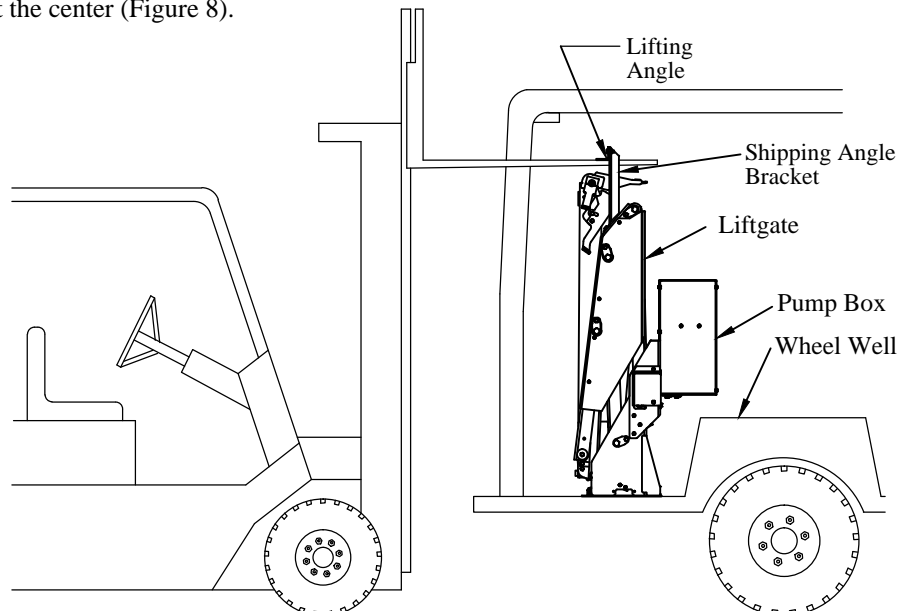

Figure 9: Lifting angle.
1. **Lift** the liftgate by the lifting angle with a fork truck (Figure 9).